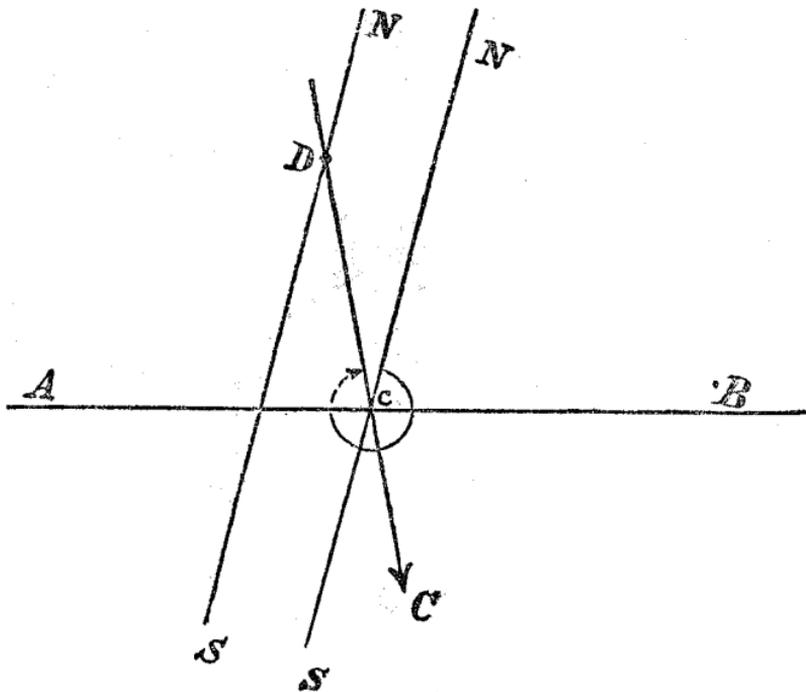

FIG. 142.
**By resection.**—Knowing that C is somewhere on the line AB, and knowing D, take its azimuth, plot DC; the intersection of DC with AB will be at (c). (Fig. 142.)